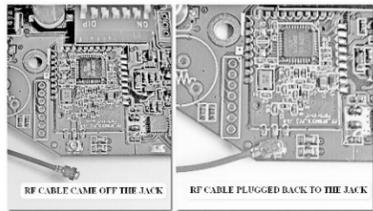

Fig 5.
- Check the antenna RF cable on both units make sure the cable is plugged in the RF cable jack. (Fig 5)